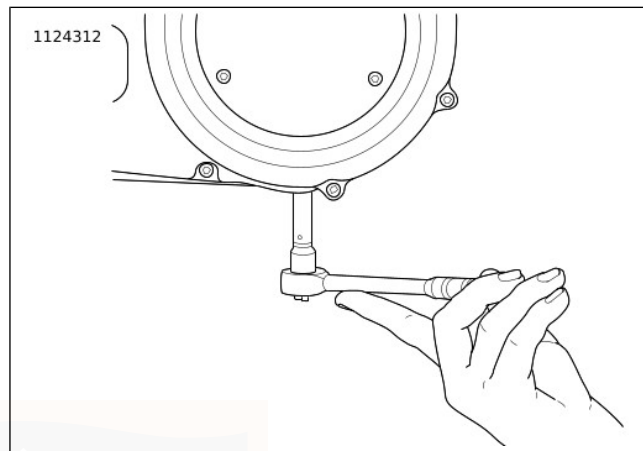

Figure 52. Removal/Installation of Chaincase Drain Plug
2. See Figure 52. Drain primary chaincase.